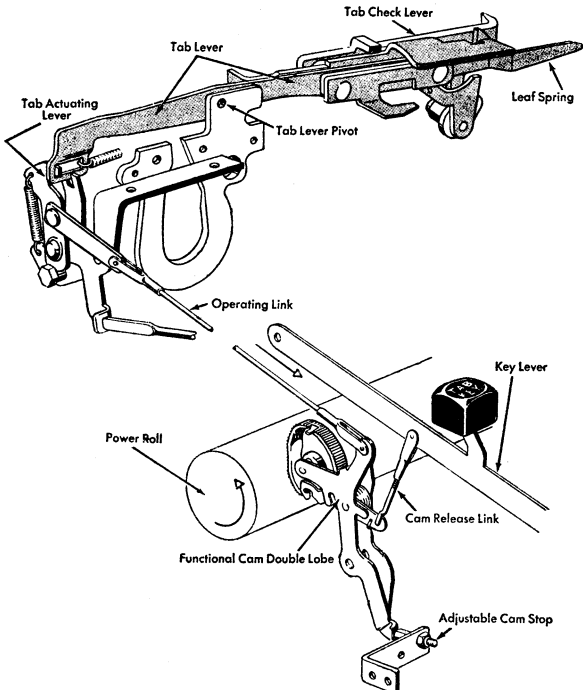

Figure 29. Tab Adjustment
2. **CAM RELEASE LINK.** Adjust so that the cam is released when the key lever is depressed $\frac{2}{3}$ of its downward travel (Figure 29).